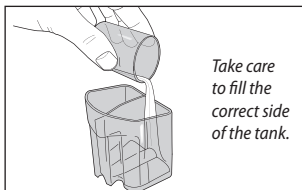

Fig. 5
7. Add 80 ml of tap/distilled water OR saline water to the larger capacity side of the secondary fill tank (the side where the suction tube feeds), Fig. 5.